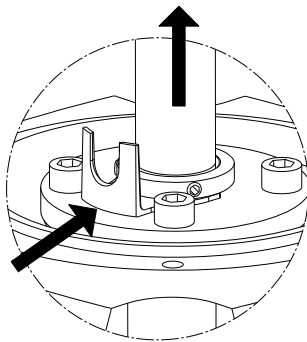

Fig. 18 Fitting adjusting forks
1. Replace rubber springs (pos. 60) and O-ring (pos. 37).
2. Fit pump head (pos. 2) on outer sleeves (pos. 55).
3. Fit washers (pos. 66a) and cross-tighten nuts (36).
4. Carefully press shaft seal (pos. 105) down the shaft and in the pump head.
5. Fit retainer (pos. 58) and cross-tighten screws (58a).
6. Press the pump shaft home and tighten set screws (pos. 113).
7. Lift the pump shaft and insert the adjusting fork between the shaft seal driver and its retainer. See fig. 18.